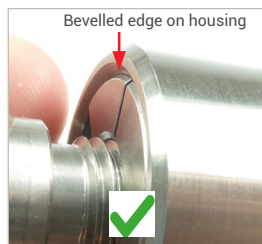
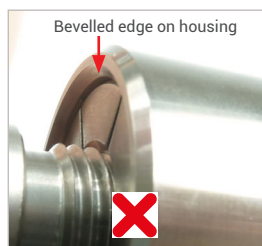

Figure 11
Figure 12
- ▶ Release the valve button (Pos. 4). The connector tightens itself to the test piece and creates a pressure-tight connection. The plane surface of the clamping jaws is at the same height as the chamfer of the housing (Figure 11). **Attention:** Make sure that the clamping jaws on the test piece grip correctly and that the plane surface of the clamping jaws is not behind the chamfer of the housing (Figure 12). Make sure that the connector is seated properly (it must not wobble) and that the pressure-tight connection has been made. Only then is the connector connected correctly. Otherwise the connector may spring out of place and medium may escape.